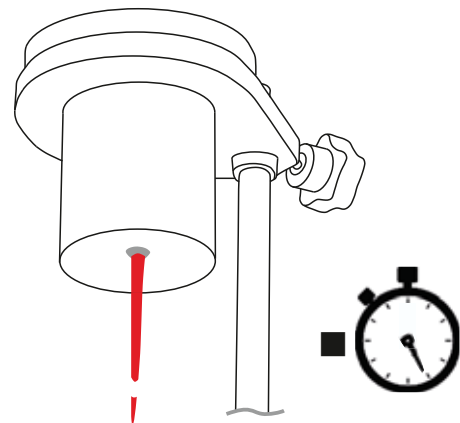

Figure 5
- 8 Watch the flow of liquid from the orifice and stop the stopwatch^a the moment the flow breaks for the very first time (Figure 5).